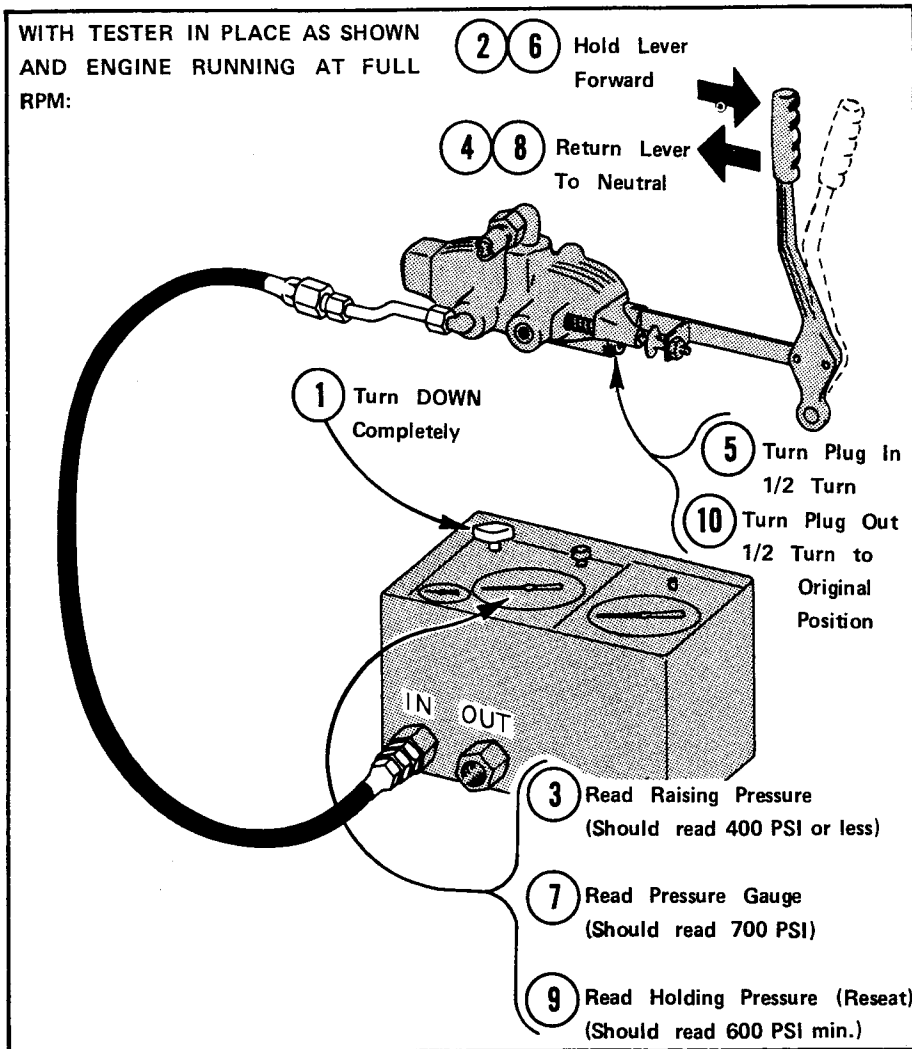

Fig. 118 Checking Variable Speed Raising and Holding Pressure Settings
Connect a hose from the inlet port of the tester to the rear port of the variable speed control valve (Figure 118).
2. Push the variable speed control lever forward to "high speed" position (Figure 118). Hold it there.
6. Hold the variable speed lever forward (Figure 118).